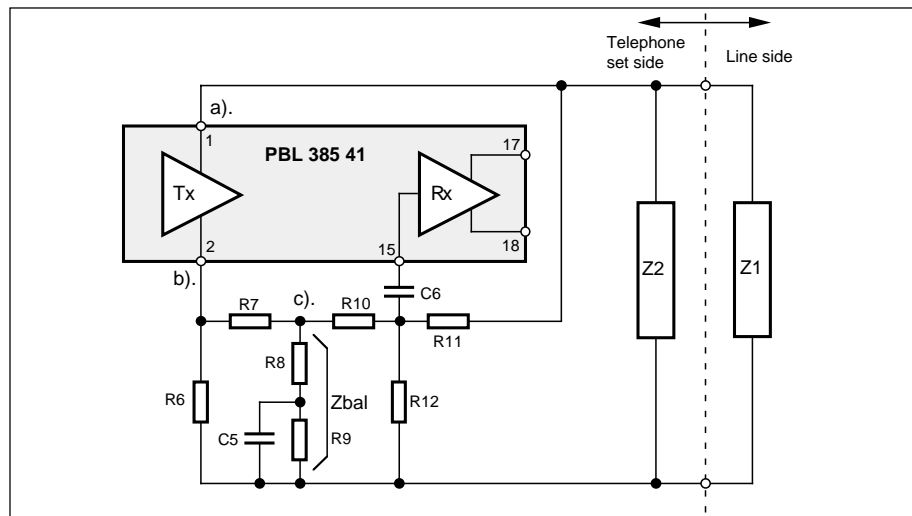

Figure 14. The side tone suppression principle.
**A short guidance for understanding the side tone principle.** (See fig.14.)